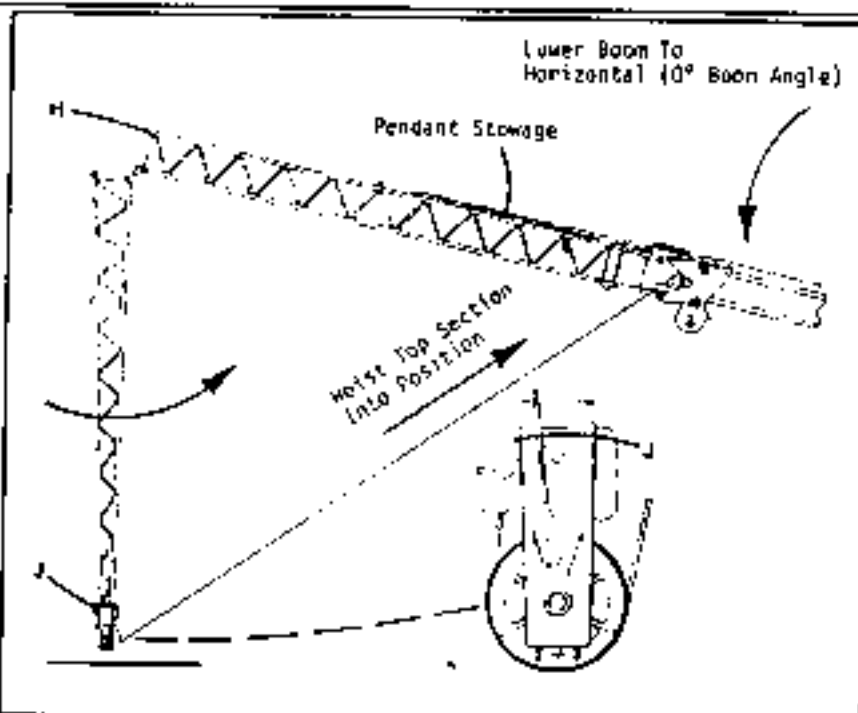

Fig. 4-50
Step 9: Refer to Fig. 4-50. Boom up slowly, allowing the jib sheave to roll on ground, until the jib top section is hanging vertical and clear of ground.
Step 10: Connect the hoist rope at "J" with dead end socket as shown in Fig. 4-50. The hoist rope must pass under the jib head sheave.